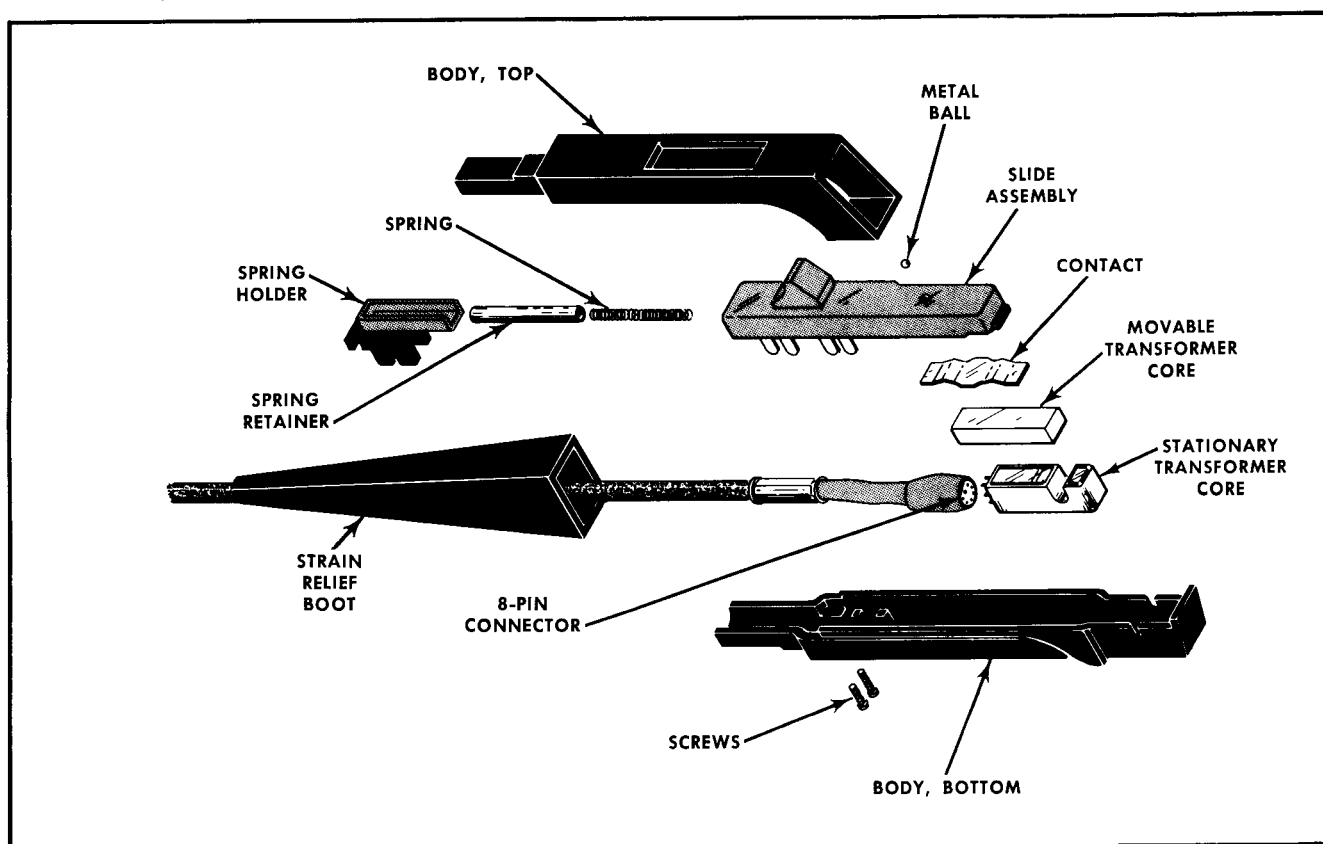

Fig. 4-1. Disassembled P6042 Probe.
7. Remove the spring holder from the bottom half of the probe body. When removing the stationary portion of the transformer core, note the position of the pins on the 8-pin plug. If necessary, unsolder the connections to the bottom half of the probe body. The probe is shown disassembled in Fig. 4-1.